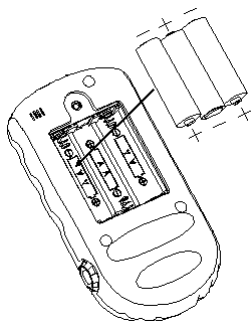

Figure 3
2) According to the polarity mark, insert three AA batteries into battery house, as shown in Figure 3.